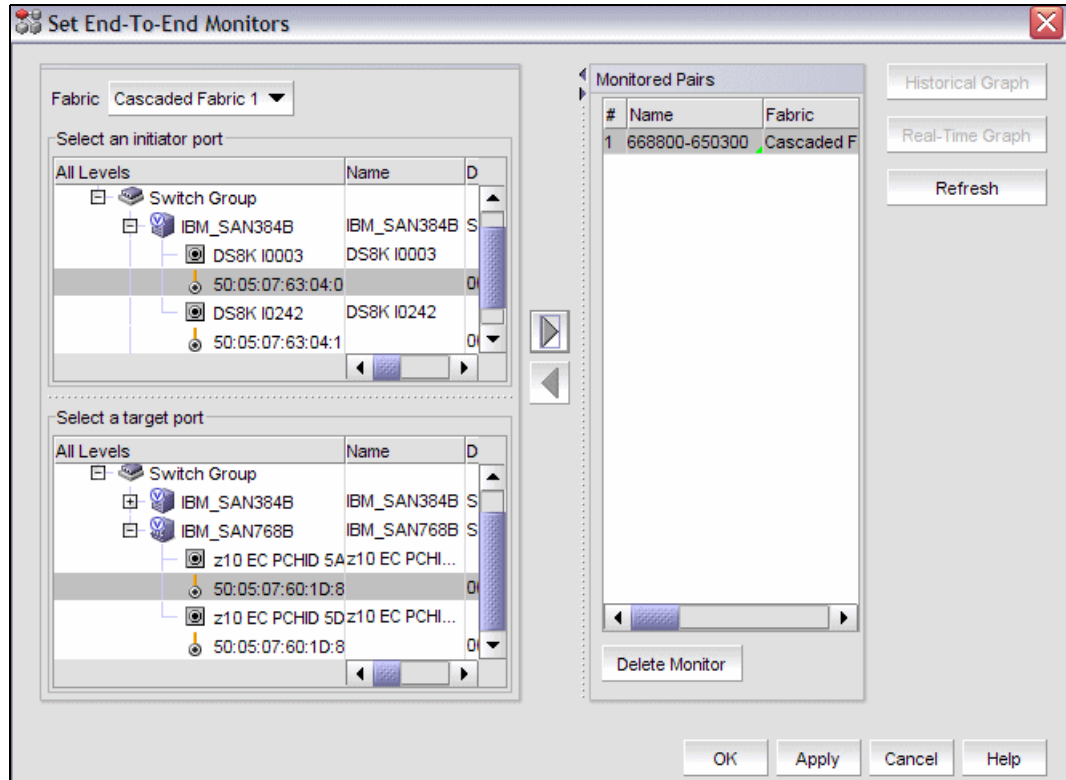

Figure 9-16 End-to-End Monitor setup
2. In the Set End-to-End Monitors panel, Figure 9-16 on page 343, first select the fabric whose ports you want to monitor from the **Fabric** drop-down menu. Select an initiator port (from the upper window on left) and a target port (from the lower window on left). To add the two ports as a pair on the Monitored Pairs table, click the right arrow in the middle. The system automatically determines the initiator SID and the target DID identifiers for the pair and displays them in the Monitored Pairs table.